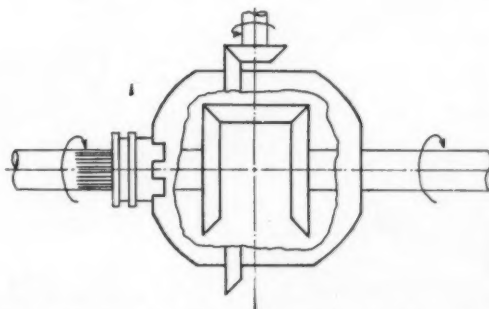

Fig. 4 Schematic of tractor differential lock in locked or engaged position
A European tractor differential lock is shown in engaged position in Fig. 4. One axle shaft is locked to the differential carrier through a sliding jaw clutch. This unit acts as a conventional differential when not engaged. Foot pedal actuation is normally used to engage the lock for emergency traction use only. Foot-pedal release returns the differential to conventional action. The foot-pedal engaging operation is somewhat equivalent to applying a brake, but no power is lost. Some differential locks are hand operated and others have automatic control (1).